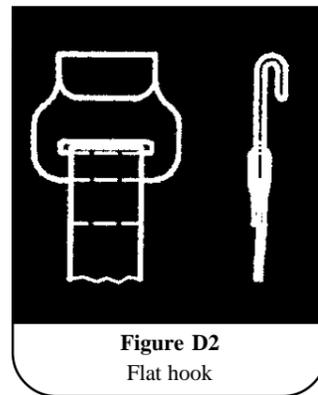

Figure D2
B.4 During use flat hooks (see Figure D2) shall engage over the complete width of the bearing surface of the hook.